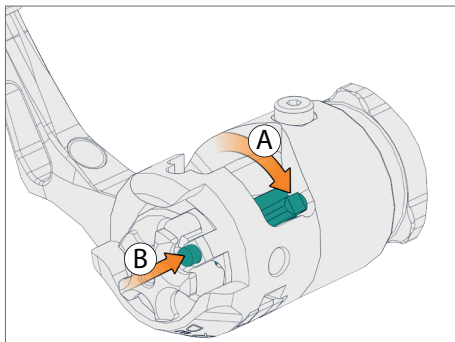

Fig. 15
- Press the firing pin into the locked position. As you do this, the guide pin will protrude slightly from the housing; press it back in until it is flush (steps A and B, see Fig. 15).